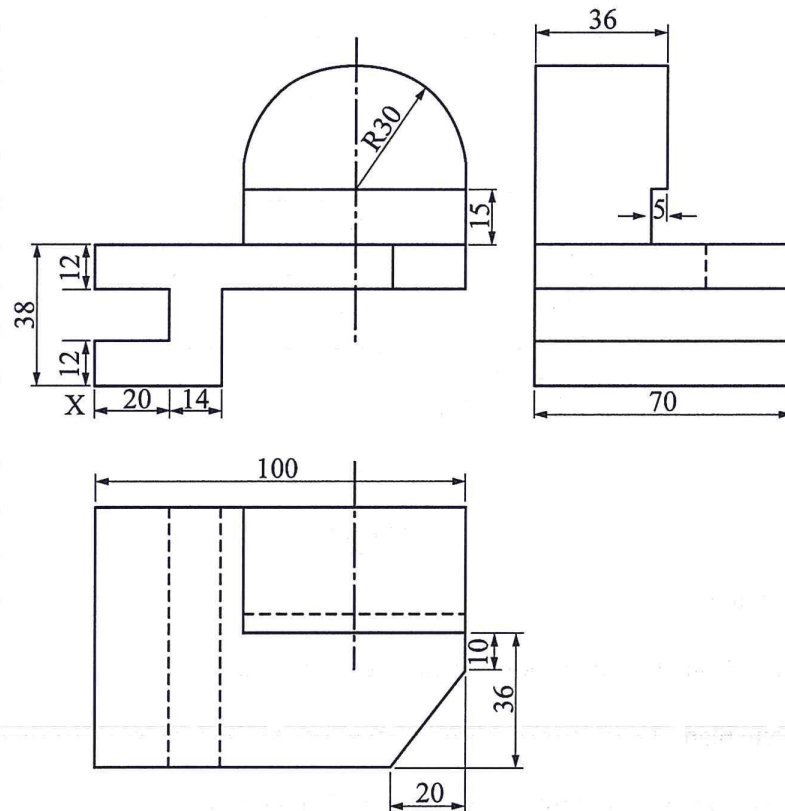

Figure 5
12. **Figure 5** shows three orthographic view of a bracket drawn in first angle projection.